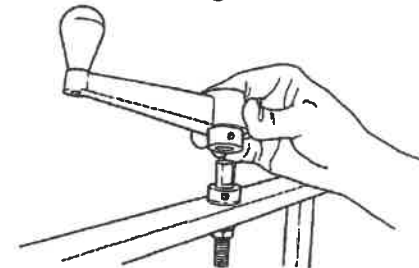

Fig. A-9
19. Line up a flat side of the slide screw (17) with the crank's setscrew (31), as in Fig. A-9.